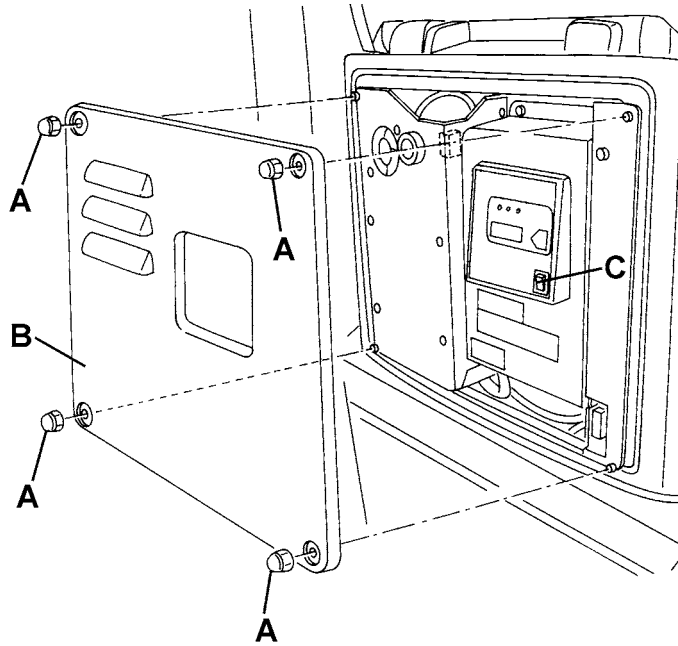

Figure 1
7. Remove the screws (A, Fig. 1) and the panel (B).
8. Turn the selector (C) to WET or GEL according to the type of batteries installed.
9. Install the panel (B), then tighten the screws (A).